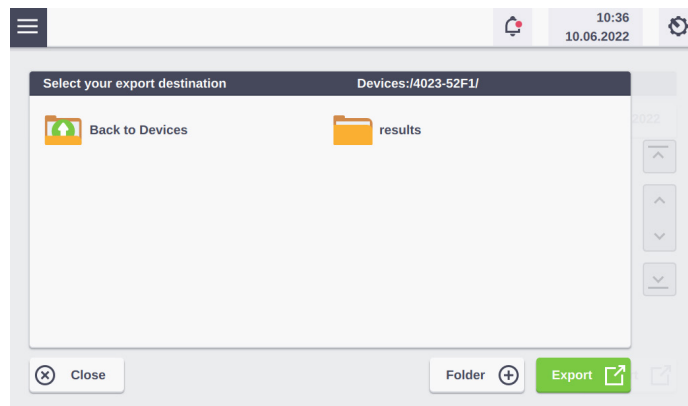

Figure 14: Result file export, (V05.10)
- Select the result to be printed (Figure 14) and press “Export”